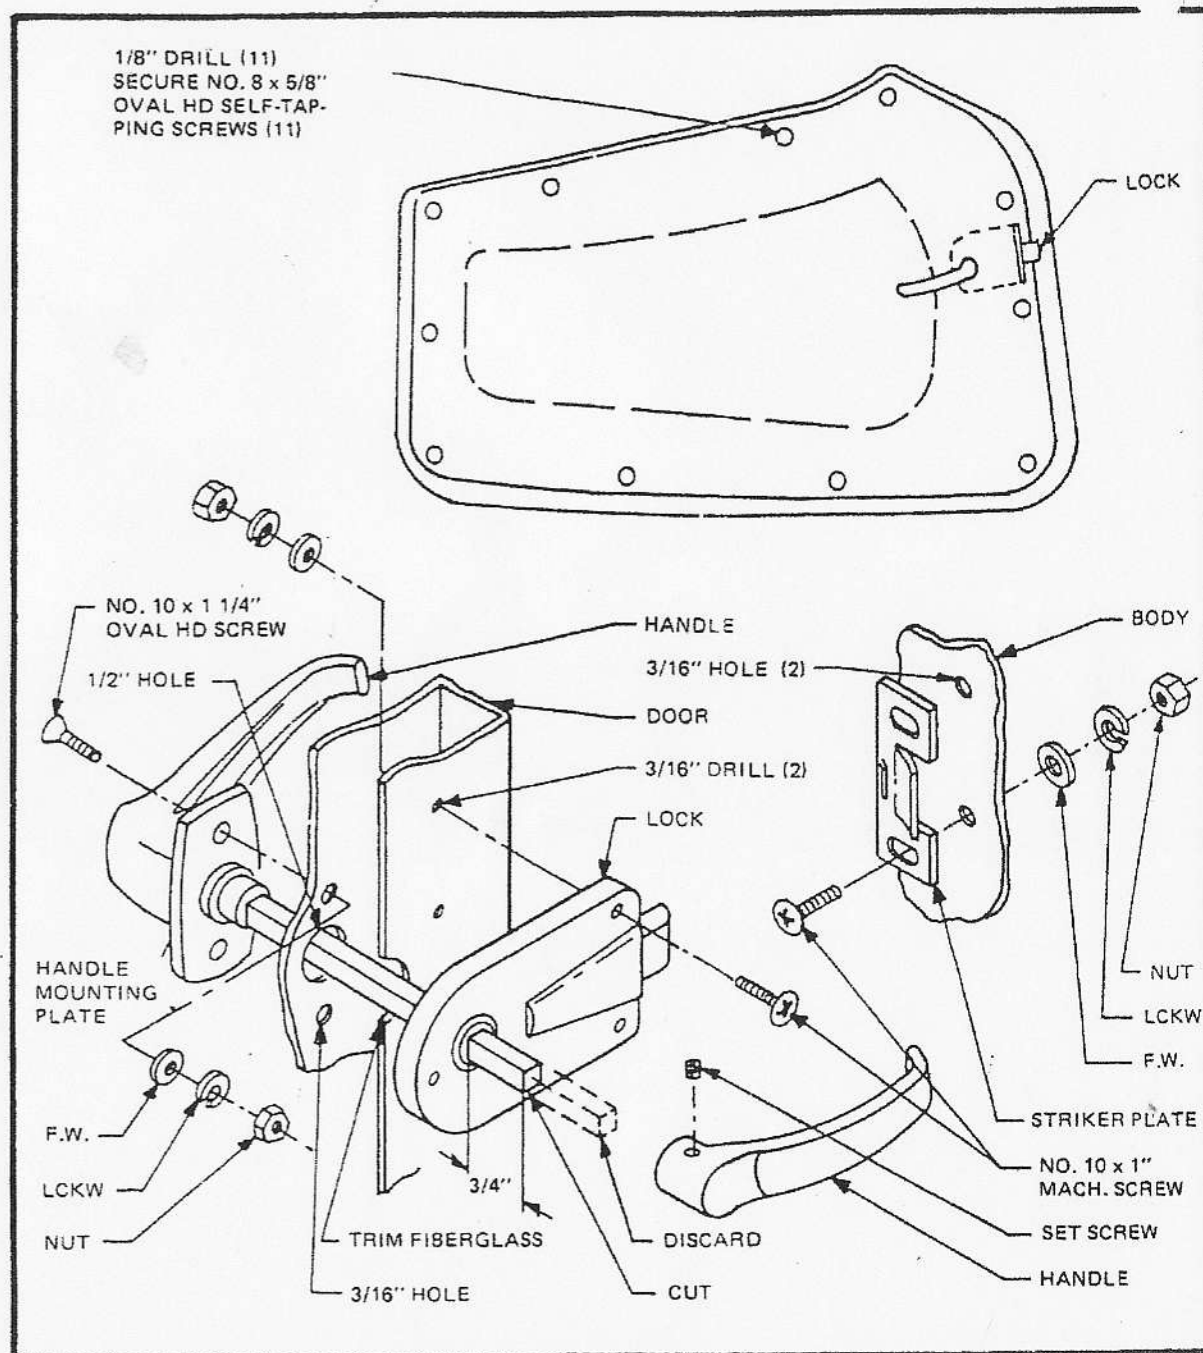

Figure 75
- ☐ Refer to Figure 75 . Temporarily hold upholstery in place and mark location of lock cut out. With door closed, hold lock in position with spring latch contacting body. Mark holes and drill ($3/16''$ drill bit). It may be necessary